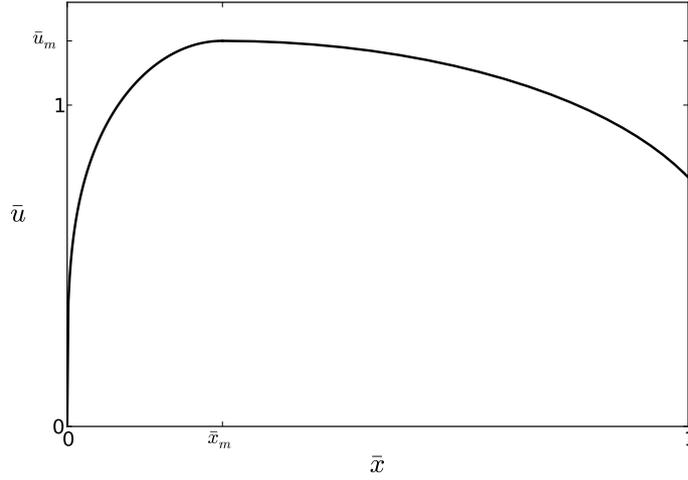

Figure 8: Nondimensional velocity distribution around the airfoil.
With the aim of measuring wind velocity (U_∞) in an airport runway, a system based on friction drag has been devised. The system, shown in Fig. 8, is based on a ground-level-mounted tile. The tile neither protrudes nor sinks, and is anchored to a very sensitive, high-precision underground balance that measures the tangential force exerted on it by wind friction. The tile is a flat plate
1. Nondimensionalise the velocity distro with U_∞ and L to express $\bar{u} = u/U_\infty$ as a function of $\bar{x} = x/L$. Use the nondimensional parameters $\bar{u}_m = u_m/U_\infty$, $\bar{x}_m = x_m/L$ and $\bar{R} = R/L$. See Fig. 8.